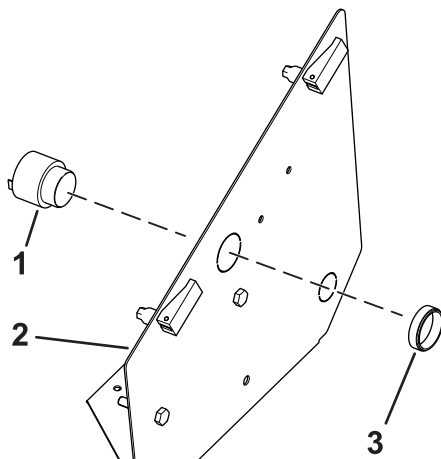

Figure 6
11. Install the alarm to the console panel (Figure 6).